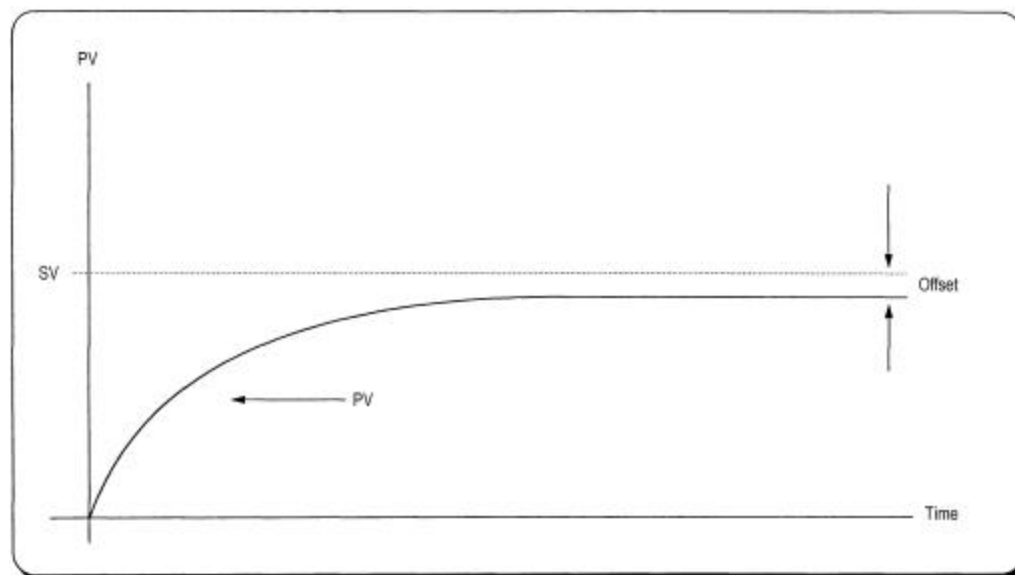

Fig. 2.3 When the proportional constant (K_p) is small
- (e) If the Kp is too small, oscillation will not occur. However, the PV reaches to the SV slowly and an offset may appear between PV and SV shown in the Fig. 2.3.
- (f) The manipulation value (MV) varies from 0 to 4,000. User can define the maximum value of MV (MV_MAX) and minimum value (MV_MIN) within the range 0 ~ 4,000.